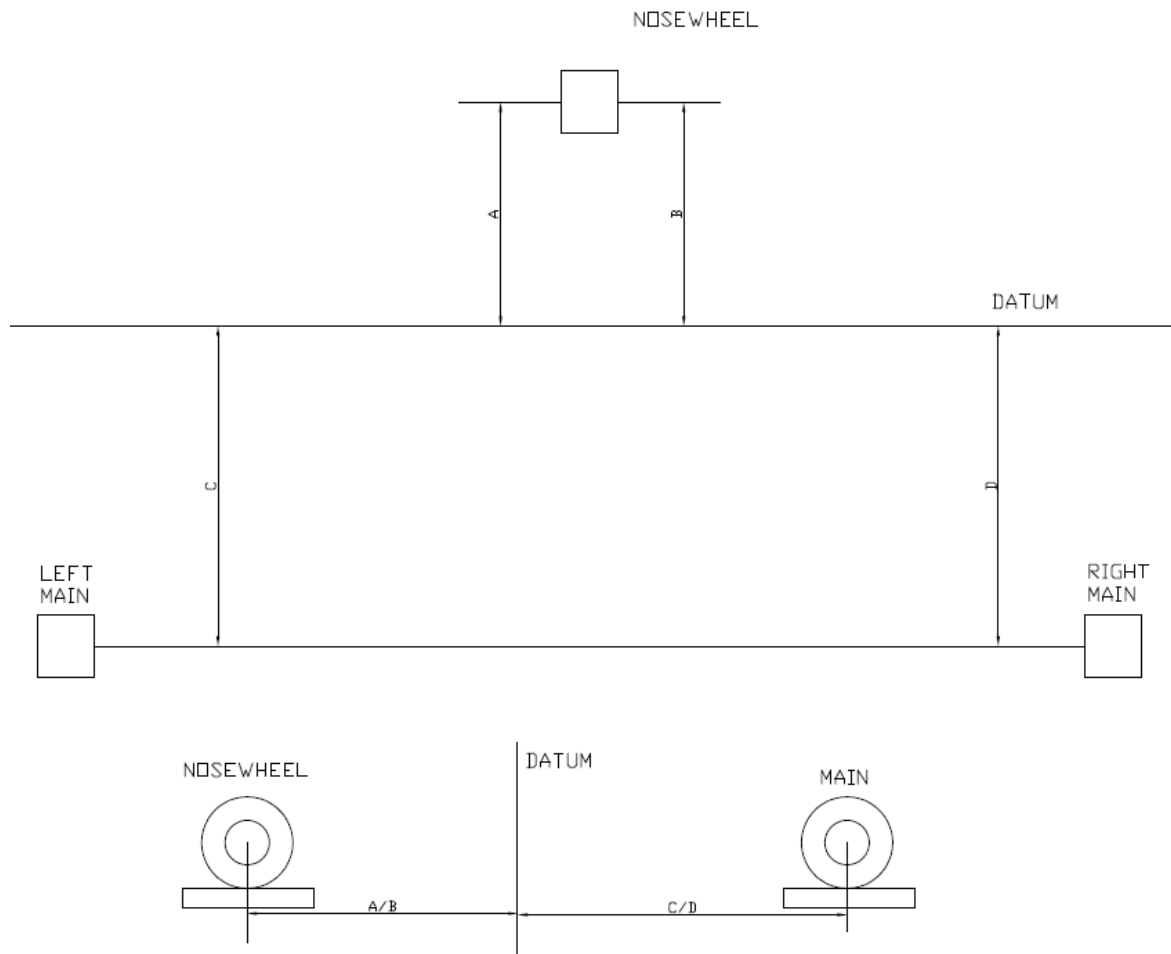

Figure 10 – Weighing Diagram.
9. All distances aft of the datum are considered positive and all distances forward of the datum are negative. See Figure 10. Note that while the arrangement shown assumes that the wing leading edge is the aircraft datum, for some Jabiru models the datum is displaced a fixed amount forward of the leading edge. For these models the measurements taken must be adjusted to readings relative to the datum. For example,